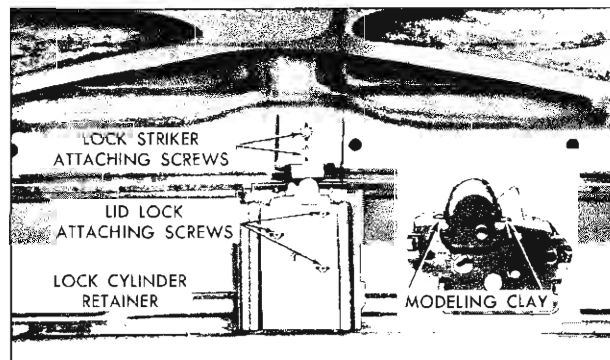

Fig. 5-5 Trunk Lock and Striker
2. Remove lid lock attaching screws (Fig. 5-5) and remove lock assembly from body.
2. Remove striker attaching screws (Fig. 5-5) and remove striker.
a. Insert a small quantity of modeling clay on frame of lock at both sides of the lock bolt (Fig. 5-5). Close lid with moderate force.